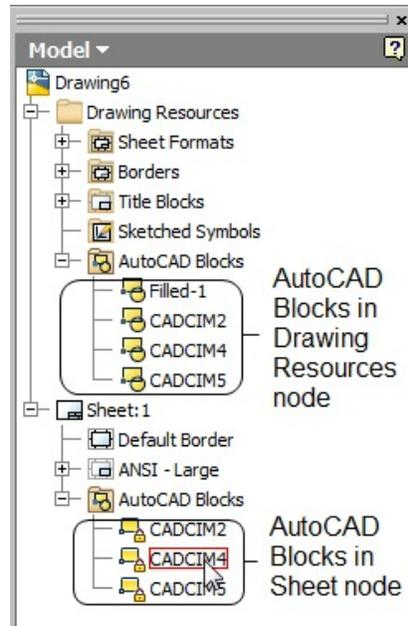
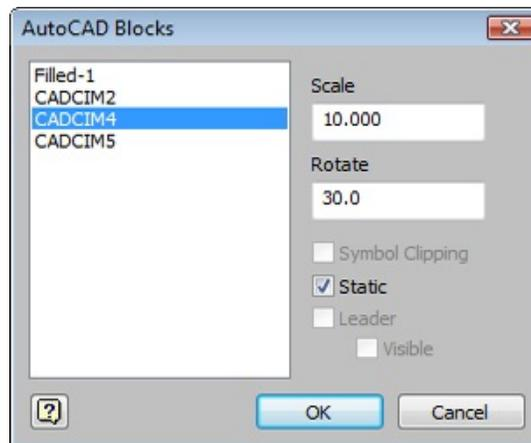

Figure 17-29 AutoCAD blocks in the **Sheet** and **Drawing Resources** nodes in the **Browser Bar**
Figure 17-30 The **AutoCAD Blocks** dialog box
After inserting the required block, right-click and then choose **Done [ESC]** from the shortcut menu; the inserted blocks will be displayed in the **AutoCAD Blocks** node under the **Sheet** node in the **Browser Bar**, refer to Figure 17-29. Expand the **AutoCAD Blocks** node to display the inserted blocks. If you double-click on a block, the **AutoCAD Blocks** dialog box will be displayed, as shown in Figure 17-30. In this dialog box, you can specify the scale and rotation angle values in
1. You can also invoke the **AutoCAD Blocks** dialog box by using the **Drawing Resources** node in the **Browser Bar**. To do so, expand the **Drawing Resources** node; the sub-nodes of this node will be displayed, refer to Figure 17-29. Expand the **AutoCAD Blocks** node; all the inserted blocks will be displayed under this node. Next, right-click on the required block and choose the **AutoCAD Blocks** option from the shortcut menu; the **AutoCAD Blocks** dialog box will be displayed, refer to Figure 17-30.